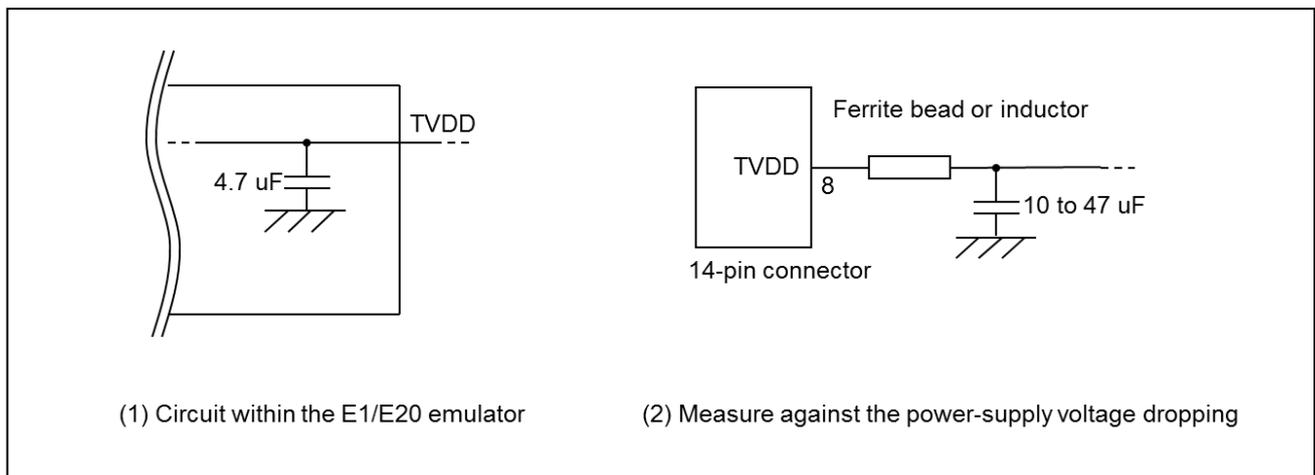

Figure 2-8 Circuit Configuration for Hot Plug-in
Pin 8 of the E1 emulator is connected to a 4.7- μ F capacitor as shown in (1) in Figure 2-8, so hot plug-in connection of the emulator may lead to a momentary drop in the power-supply voltage on the user system. This might cause the MCU to be reset.
As shown in (2) in Figure 2-8, this effect can be reduced by placing a ferrite bead (or inductor) and relatively large capacitor with low equivalent series resistance near the TVDD line of the connector for connection of the emulator. Note that this measure will not completely eliminate the voltage drop. Note that hot plug-in connection is only for use during debugging, and a separately sold hot plug-in adapter is necessary to use this function otherwise.